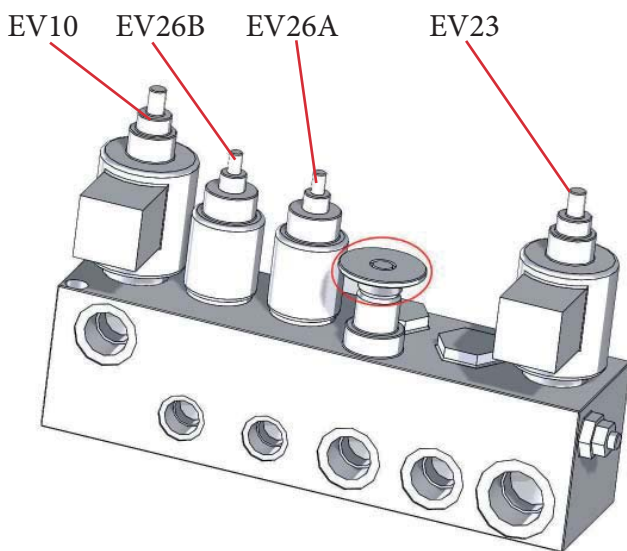
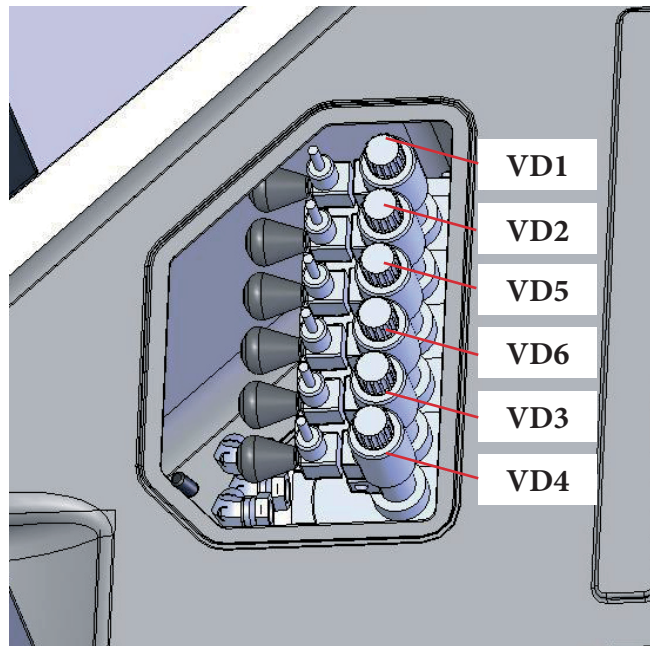
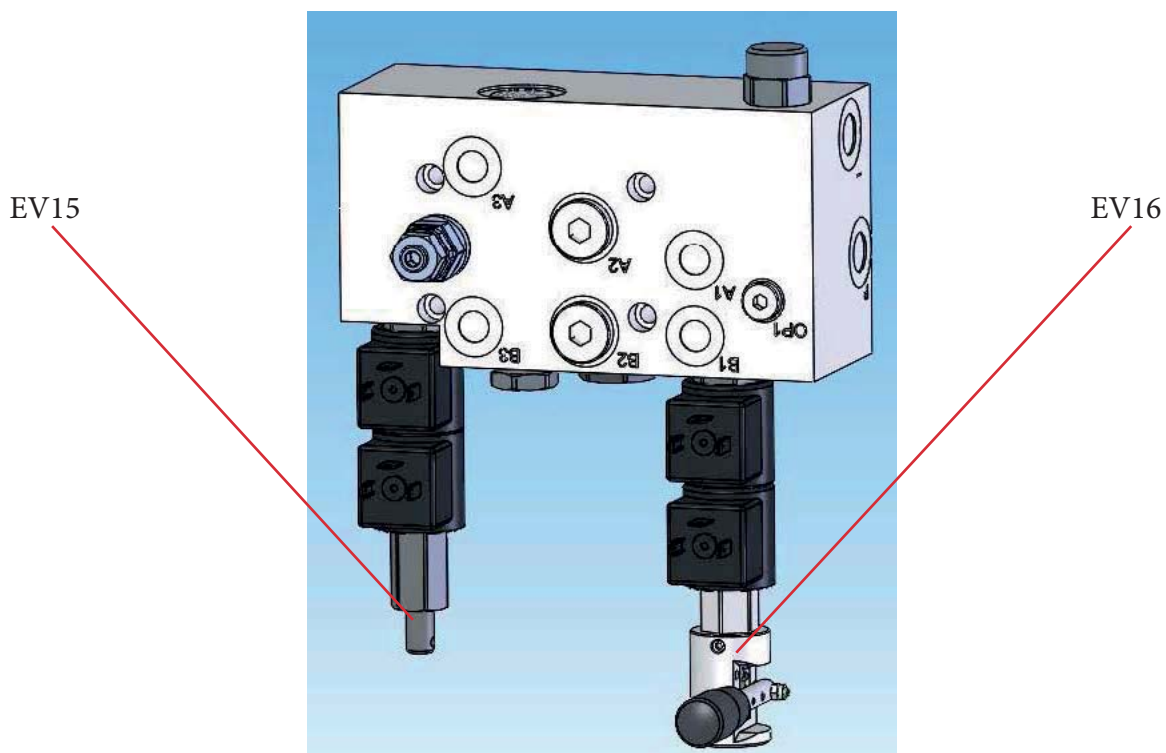
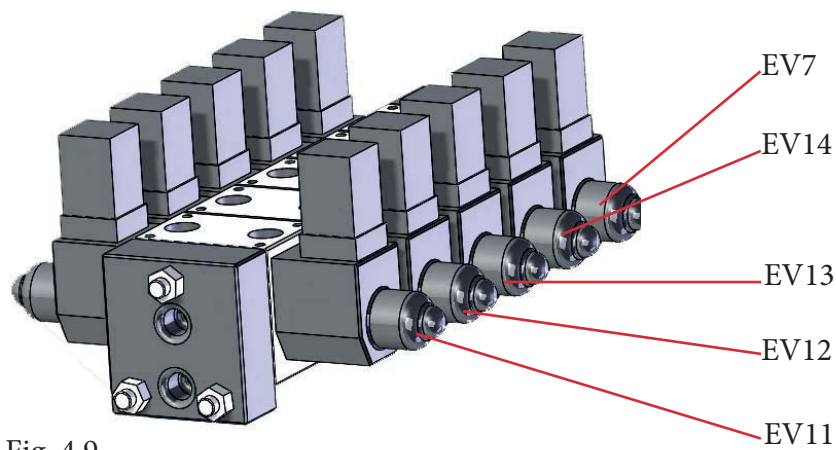

Fig. 4.4
Fig. 4.5
fig. 4.6
Fig. 4.9
With the engine running, open box 4 containing the movement levers and operate the telescopic arm retraction lever VD4 (Fig. 4.5) until the extensions are completely retracted. Refer to the pictograms on the distributor box to activate the correct movement of the machine.
To lower the boom, move the lever VD3 of the distributor (Fig. 4.5) and at the same time press the electrovalve EV23 (Fig.4.4). Carry out the arm lowering maneuver until the basket is on the ground. The use of the emergency levers excludes all safety devices and therefore it is the task of the operator, specifically trained and authorized by the employer, not to carry out extension extensions or turret rotations.
To rotate the turret, use the lever VD5 of the distributor (Fig.4.5) and at the same time press the electrovalve EV26A or EV26B depending on the desired direction of the movement (Fig.4.4). Every electrovalve works for one direction only, so if the maneuver doesn't work, be sure to press the right side.
If you need to move the leveling only, keep pushed the electrovalve EV10 (Fig. 4.4) and in the same time the valve EV16. When the basket reaches the right level, you can release it. With the EV 10 electrovalve activated manually, it is also possible to perform the basket rotation movements by pulling or pressing EV15 (Fig. 4.6).
3. from the distributor (fig.4.5), move the right track lever VD1 forward and at the same time press one of the stabilizers electrovalves caps of EV11, EV12, EV13 ed EV14, one at a time until they are completely recovered (Fig. 4.9).